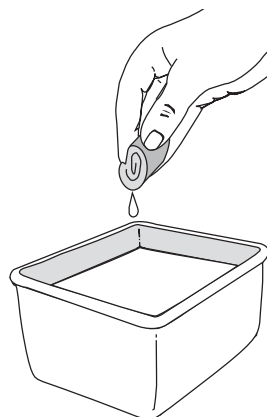

Fig. 26
- Wash the filter in detergent and water (Fig. 26). Rinse the filter thoroughly. Squeeze out excess water. Allow it to dry completely.